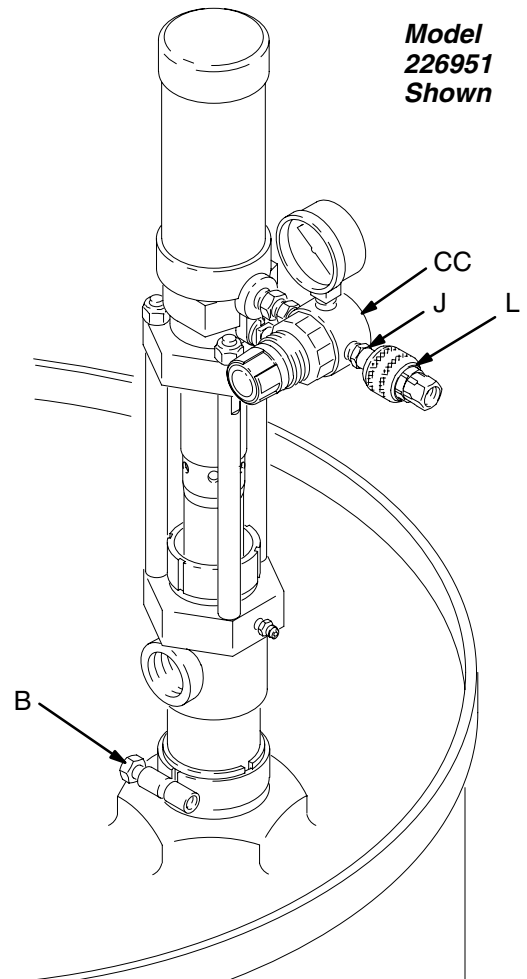

Fig. 3
Most models are supplied with a needle-type air control valve (K) at the pump air inlet. Model 226951 is equipped with an air regulator kit (CC) instead (see Fig. 3). All models are supplied with an air line quick disconnect coupler (L) to connect the air line to the pump and accessories.
With the air valve (K) or regulator (CC) closed, turn on the air supply and connect the air line coupler (L). See Figs. 3 or 5. Make sure all dispensing valves are open.